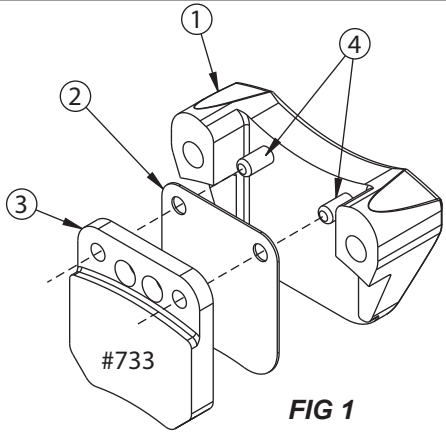

FIG 1
**Step 1** - Install the insulator plate (2) and outer brake pad (3) by sliding them onto the brake pad pins (4) located in the outer caliper (1), as shown in Fig 1.